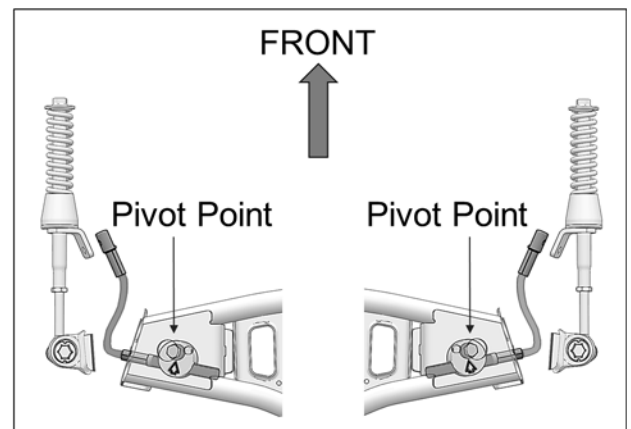

Fig. 21
- Make sure aluminum disk pivot point is installed in front of steering limiter cable. See Fig. 21